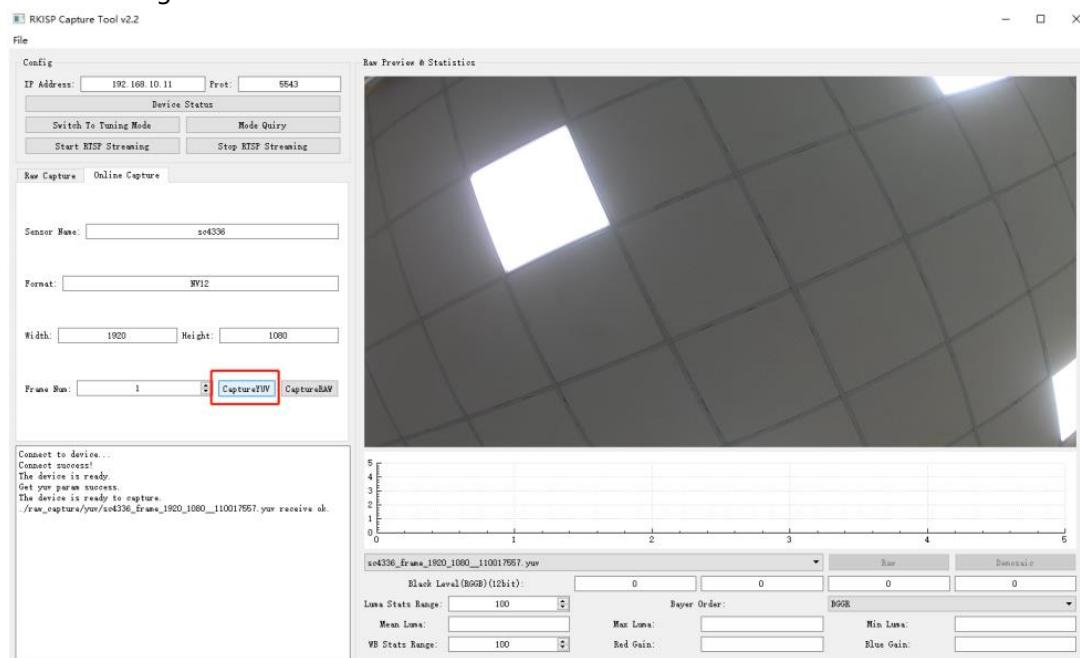

Figure 3-7-2-1
5. Click **Capture YUV**, the image can be previewed, the file will be stored in **raw_capture/yuv/**, as shown in Figure 3-7-2-1: